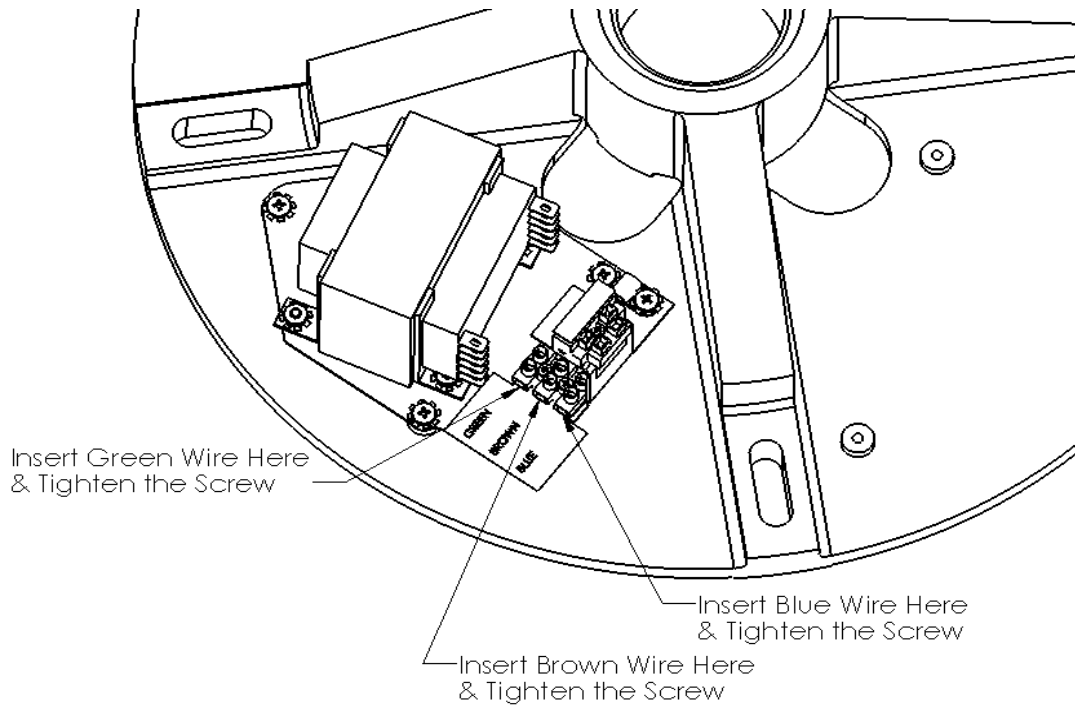

Figure 12. Arm Cable termination
- Feed the arm power cables thru the ceiling casting large access holes and connect each arm power cable to the appropriate transformer. An S1 arm has a 3 conductor black cable with orange stripes and will connect to the transformer with the orange tag located at the terminal block. An S2 arm has a 3 conductor black cable with red stripes and will connect to the transformer with the red tag at the terminal bock. Follow the wire color code instructions on that tag. Strip and twist the wire ends, terminate each respective wire with to the proper connection at the terminal block on each transformer. See figure 12.